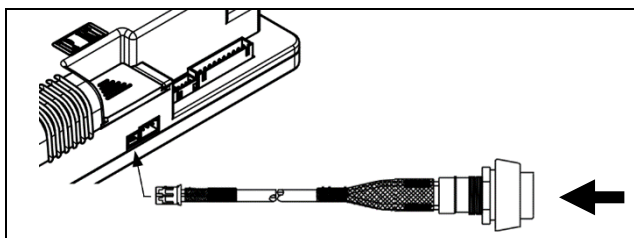

Figure 7: Control module's external learn button
- Press control module's learn button (see Figure 7 or 8), an acoustic signal and green LED flashing.
- Within the subsequent 10 second press any button on the remote handset until you hear two (2) beep confirming the code is set.